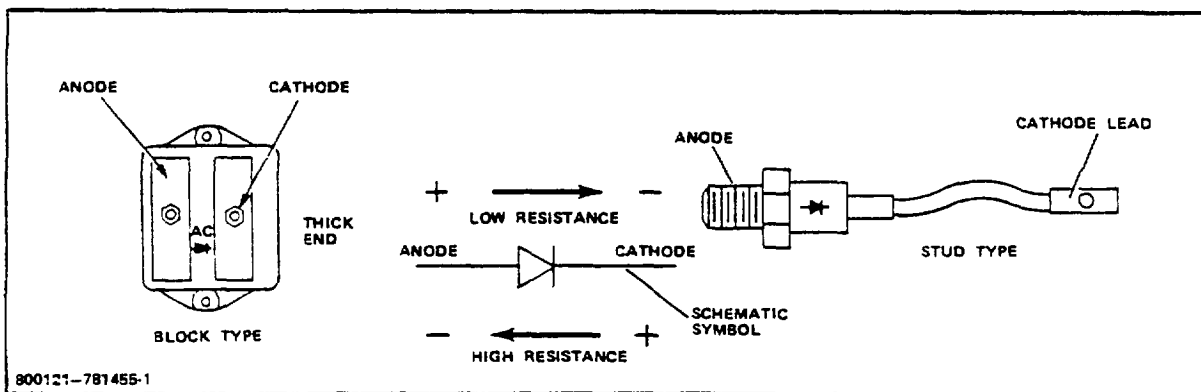

Figure 3-9. Diode Resistance Test
- (1) Disconnect the cathode lead to electrically isolate the diode.
- (2) Set the ohmmeter on the RX1 scale, and zero the meter.
- (3) Connect the positive lead to the anode and the negative lead to the cathode (Fig 3-9). Resistance should be 7-12 ohms.
- (4) Reverse the meter leads. Resistance must be 10,000 ohms or greater.
c. Thermal Protector (TP)